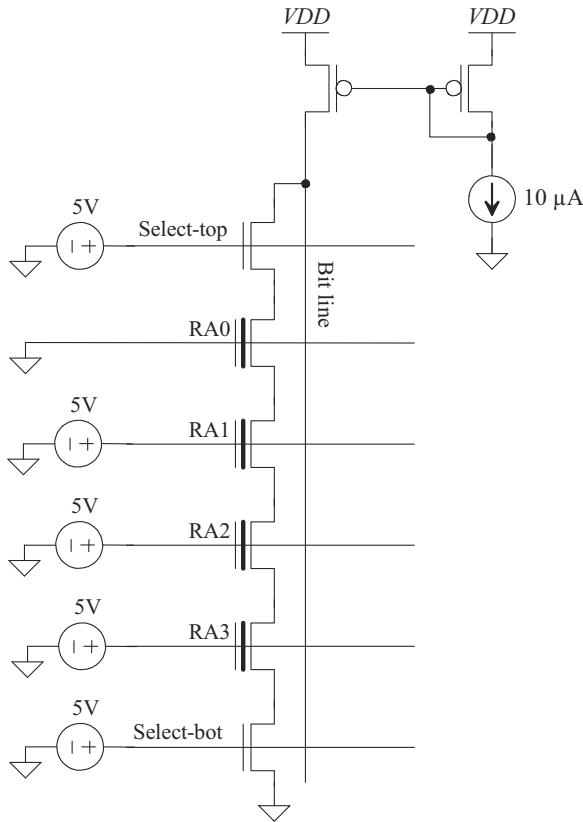

Figure 16.75 Reading the contents of RA0 in a NAND Flash cell.
- 16.19** If the I_{erased} of a NAND Flash memory cell is 20 μA and the I_{prog} is 2 μA , explain what the bit line voltage will do when reading out the cell in the following configuration, Fig. 16.75. Will the bit line go all the way to V_{DD} ? All the way to ground? Explain. If the bit line capacitance is 200 fF, estimate the length of time it will take the data on the bit line to settle before it can be read out. Assume that the V_{DD} is 5 V and the bit line is equilibrated to 2.5 V prior to sensing.